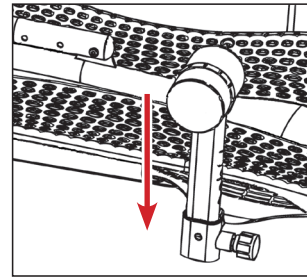

Figure 5
- Align and insert the Rotation Adjustment Arms into the Support Housings (Figure 5).